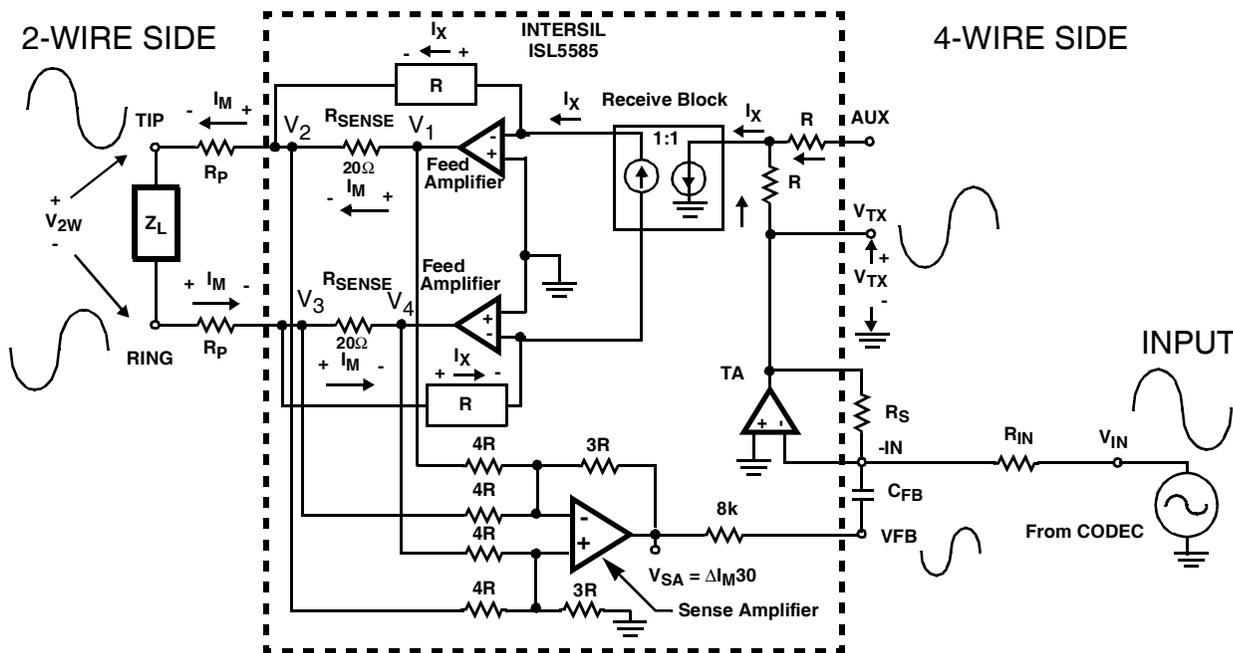

FIGURE 6. 4-WIRE TO 2-WIRE SIGNAL PHASE ACROSS THE ISL5585
Figure 6 illustrates the phase of the input signal across the ISL5585 when the signal is applied at the -IN pin of the ISL5585 through the R_{IN} resistor. The Transmit Amplifier (TA) inverts the signal 180 degrees at the VTX pin. The feedback around the tip amplifier inverts the signal again on the tip lead. The input signal will cause AC loop current to flow through the $20\ \Omega$ sense resistors in the direction from V1 to V2 and V3 to V4. This results in an inverted signal (referenced from tip) on the VSA and thus the VFB pin. This out of phase signal is the signal used by the feedback path to match the line impedance of the 2-wire side.